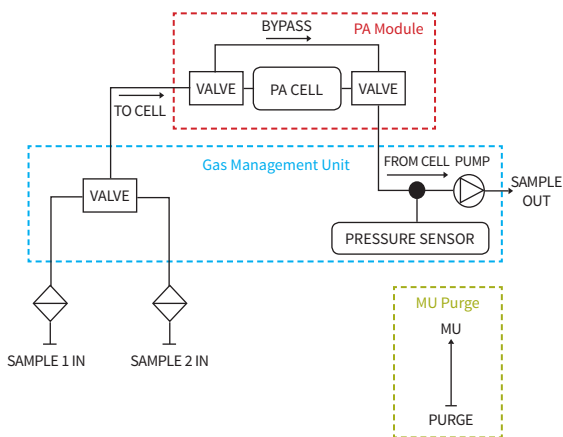

Figure 5. GASERA ONE internal gas lines.
Internal gas lines of GASERA ONE products are illustrated in Figure 5. There is two separate gas lines:
- Connect the purge gas source with gas flow still stopped to PURGE connector in the rear panel; see chapter 3.4.2 on page 9. Instructions for using gas connectors is in chapter 4.2 on page 12. Internal gas lines are illustrated in Figure 5.